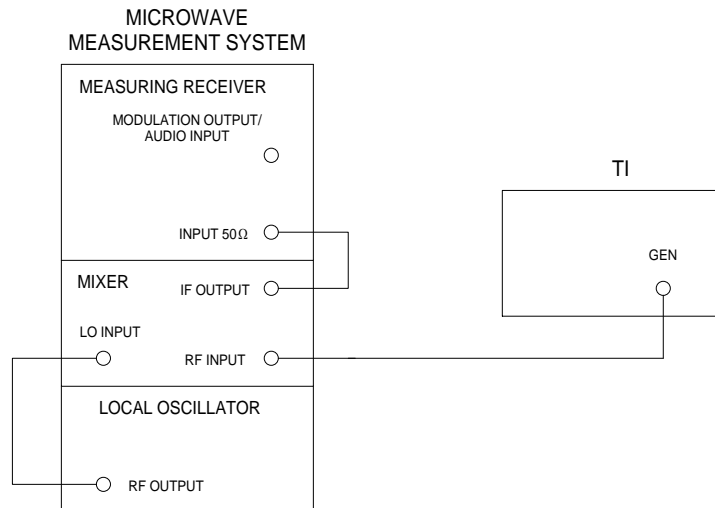

Figure 1.
4.5.2 Connect equipment as shown in Figure 1.